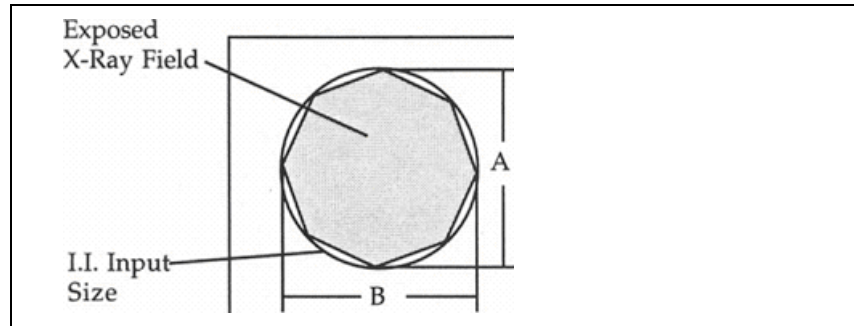

Fig. 16 Measuring the exposed X-Ray field cassette 35 × 35cm (14"×14")
- Develop the film and measure the exposed x-ray field, as shown in Fig. 16. Write the results in the box below.